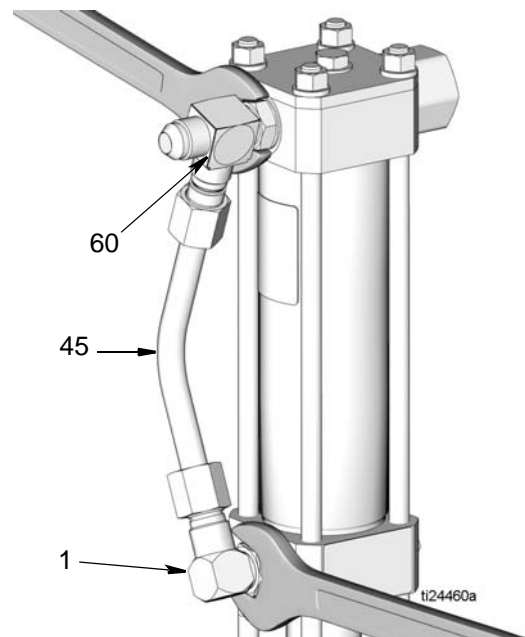

FIG. 10
- Use a wrench to loosen elbow (1) and tee (60). Remove fluid tube (45). Install plug in each fitting to prevent contamination (FIG. 10).